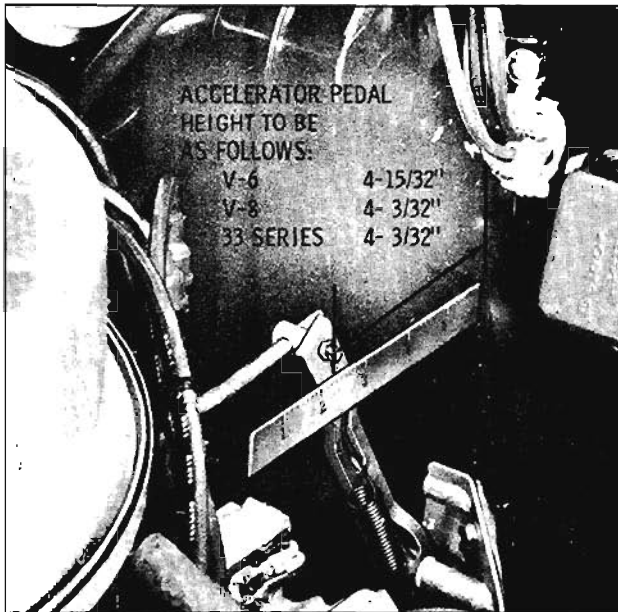

Fig. 6-240 Accelerator Pedal Height
(Figs. 6-240, 6-241, 6-242 & 6-243)
1. Adjust accelerator pedal height. (Fig. 6-240)